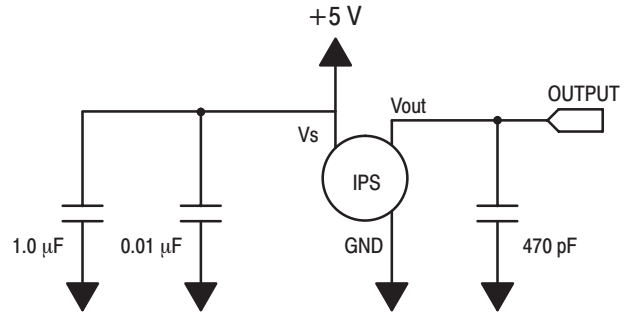

Figure 3. Recommended power supply decoupling and output filtering. For additional output filtering, please refer to Application Note AN1646.
**OPERATING CHARACTERISTICS** (VS = 5.1 Vdc, TA = 25°C unless otherwise noted, P1 > P2. Decoupling circuit shown in Figure 3 required to meet Electrical Specifications.)
Figure 3 shows the recommended decoupling circuit for interfacing the output of the integrated sensor to the A/D input of a microprocessor or microcontroller. Proper decoupling of the power supply is recommended.